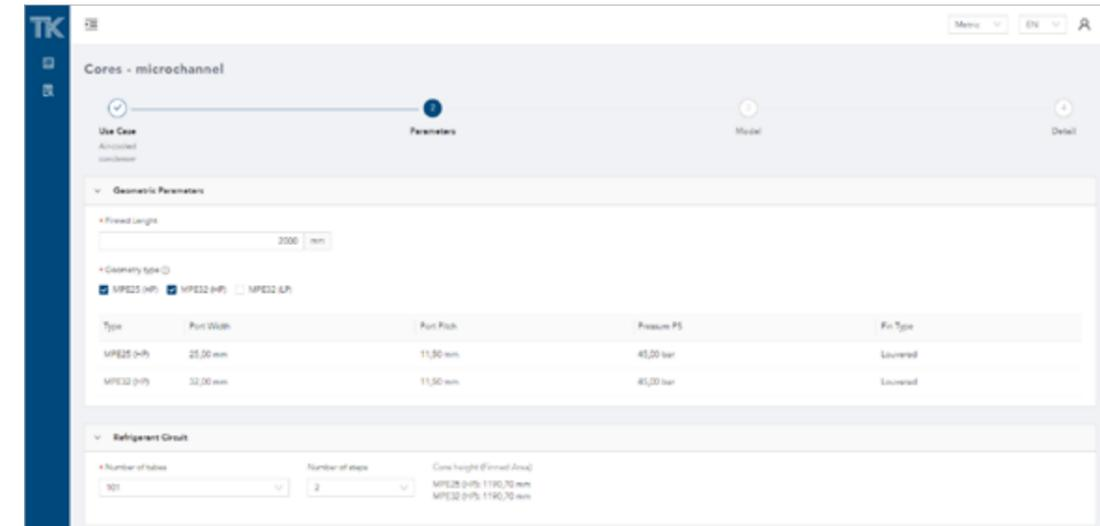
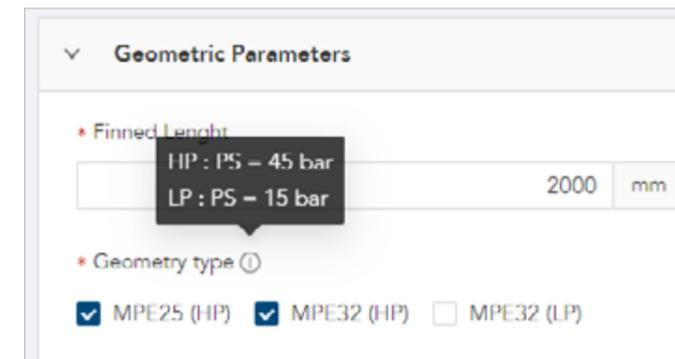

Figure 6 - Parameters screen for Air-Cooled Condenser: part of geometric parameters and refrigerant circuit
Figure 7 - Info about the type of HP and LP tube
Among the selectable parameters we have the length of the pack (or length of the tubes), and the type of MPE (Multi Port Extruded) tube. At the moment, the user can select three types of tubes: MPE25 (HP), MPE32 (HP) and MPE32 (LP). The number 25 or 32 refers to the width of the tube in millimeters, while the inscription in brackets of HP or LP identifies the maximum working pressure PS, which can be displayed by hovering the mouse over the info icon (i) (Figure 7). With the selection of one or more geometries, a table is shown below that faithfully displays the width of the tube, the pitch between the tubes considering the height of the fin, the PS and the type of fin (Figure 6). The selection of MPE32 (LP) with a lower PS does not allow the selection of most refrigerants, currently restricting the choice of fluid to two types. By selecting several pipes, for example the two HP (high-pressure MPEs), it is possible to calculate the performance of the exchanger in the two versions that can be compared in the following section.
In this section (Figure 6 below), the user can select the number of tubes and the number of steps with different options from the drop-down menus. Next to the number of pipes is displayed the total height of the package for the selected pipe(s).